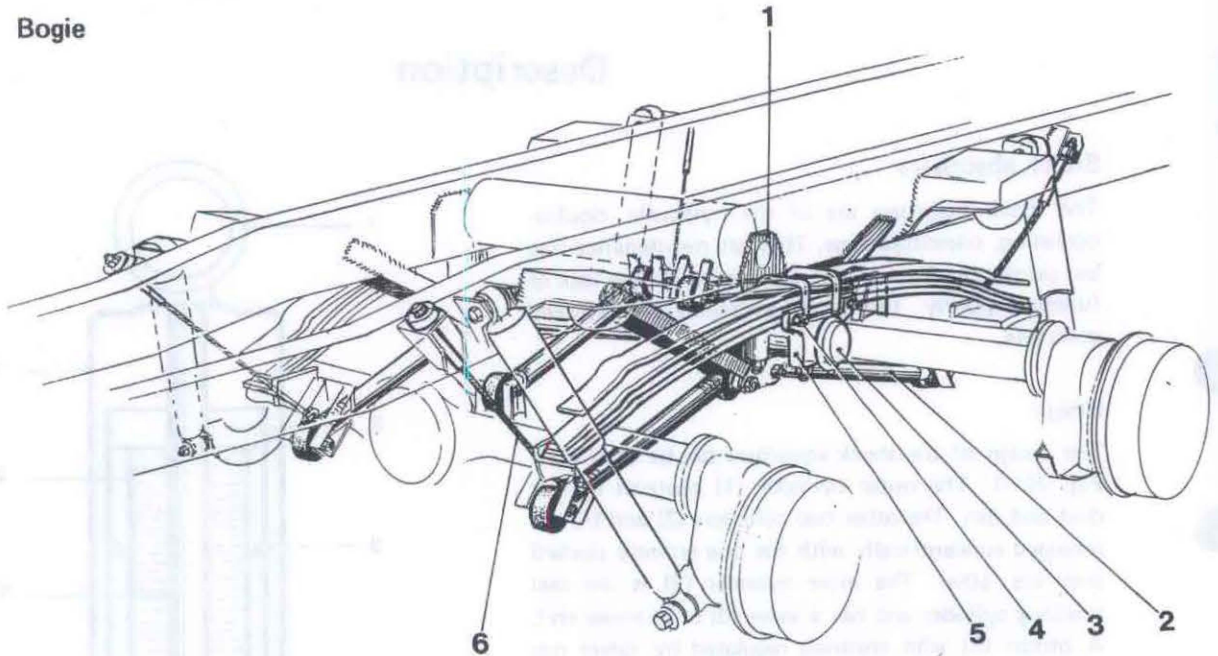
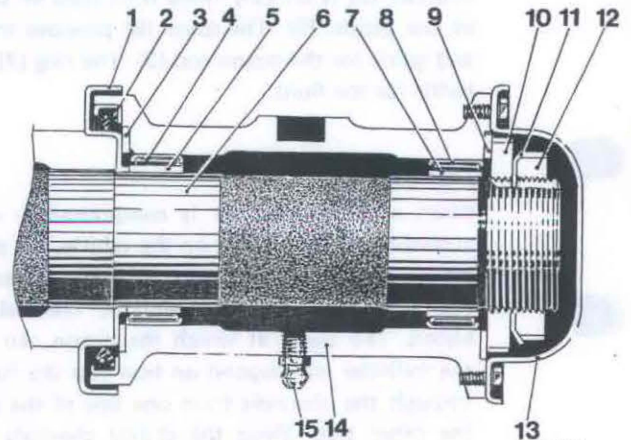

Fig. 76-2. Bogie
Fig. 76-3. Cradle journaling
The design and suspension of the front springs is the same as for 2-axle vehicles. But the rear springs are of the parabel type. Rear springing is progressive with slip suspension at both ends, see Fig. 76-2. The vehicle has hollow-rubber springs front and rear.
2. Release the U-bolts and the lock bolts (4, Fig. 76-2). Lift out the spring.
The cradle (5, Fig. 76-2) is journalled on the bogie attachment's (1) journal pin with needle bearings (4 and 8, Fig. 76-3) for radial forces and with synthetic thrust washers (3 and 9) for axial forces. Axial clearance is adjusted with the help of the nut (10).
3. Screw off the cover (13, Fig. 76-3).